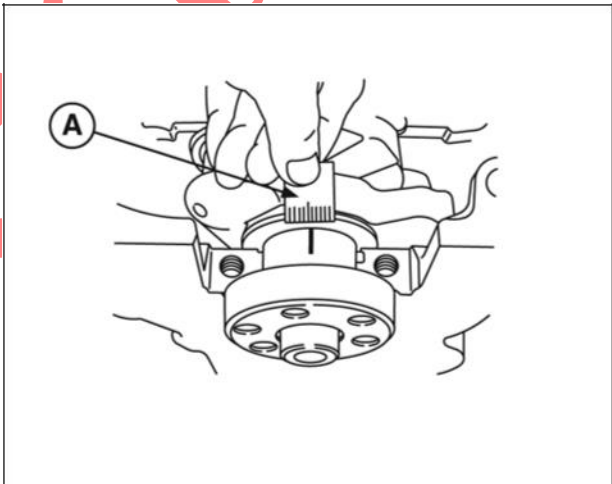

Figure 6
4. Remove the bearing cap. Measure the plastigage at its widest point (A, Figure 6). If the clearance is not within specification, replace the bearings.